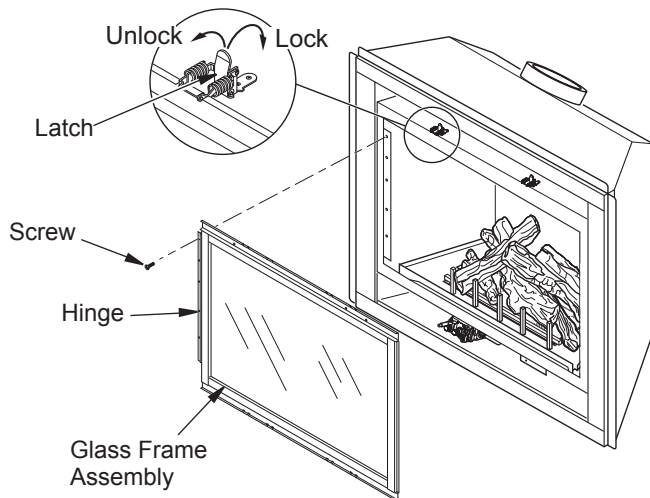

Figure 42 - Removing/Replacing Glass Door
2. Lift up on latches to unlock. There are two on top of firebox and two below firebox that hold glass door in place (see Figure 42).
3. While holding glass door to prevent it from falling and causing injury, remove the five screws from the hinge located on the left side of door frame assembly (see Figure 42).
5. Close glass door frame. Lock latches by placing the bar under the tab on door and pushing down and back on latch (see Figure 42).